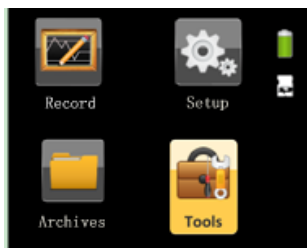

Figure 2-7 Main device interface
(1) Main device setting
- ① After an AA battery is installed, long-press the **On-Off / OK** Button ①/☑ to turn on the device, and then press the **Shift** Button ② to select the “Tools” icon (Figure 2-7).